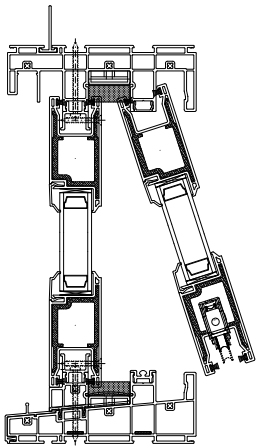

Figure 3
B. Installing the operable panel (Figure 3)